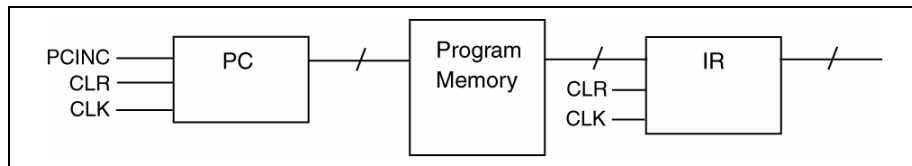

Figure 2: Instruction Unit Architecture
For this experiment, you'll want to add what could be referred to as an *instruction unit* to your previous design. For this experiment, the instruction unit consists of a program counter (PC) and instruction register (IR). As shown in Figure 2, the output of the program counter is used to index words stored in the ROM. The instruction register latches instructions stored in the program memory. Note that there is a VHDL model for a counter listed on the back side of the VHDL cheat sheet.